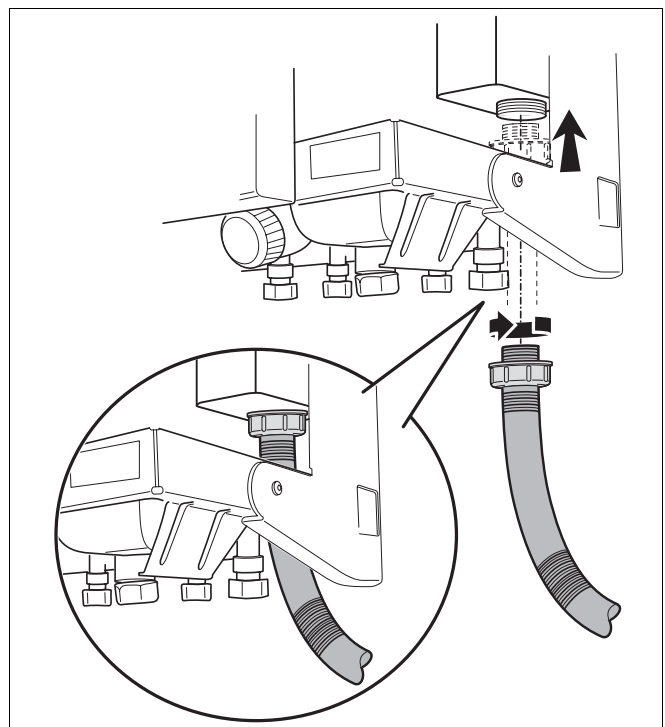

fig. 9 Hose connection
- Screw the hose to the condensate trap as shown in fig. 9.